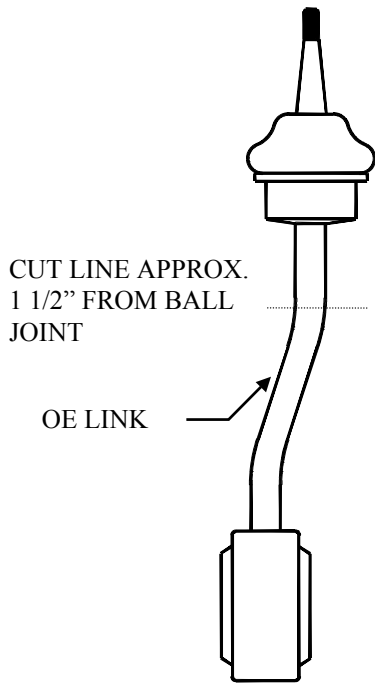
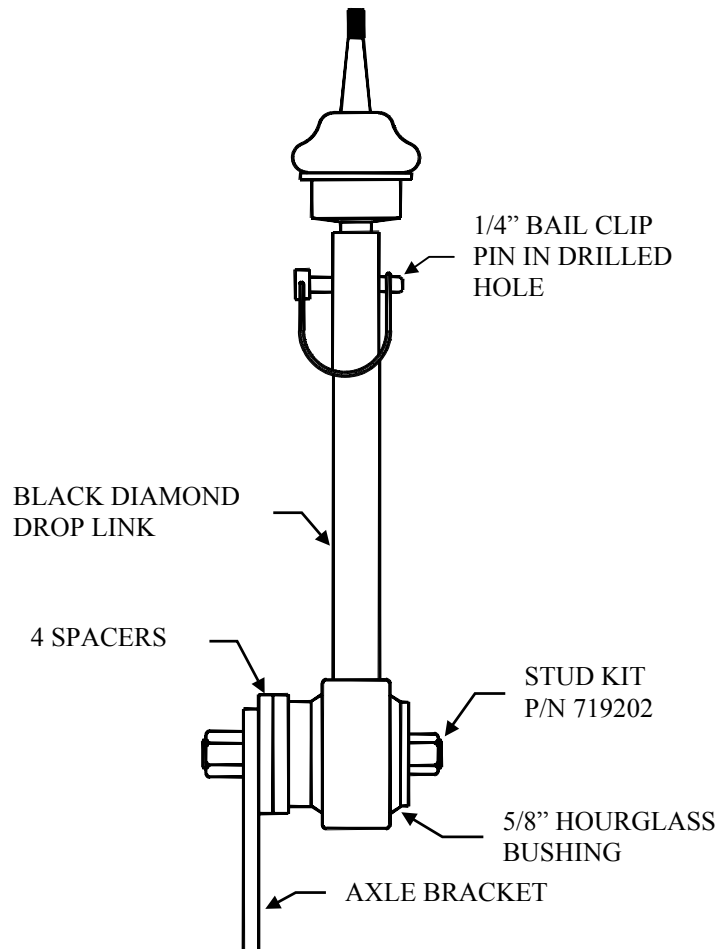

Figure 2.
Figure 3.
just before the bend as shown **Figure 2** using a Hack Saw or similar method. File the cut end to remove any burrs. Insert the ball joint into the end of the new Black Diamond drop link and match drill a 1/4" hole using the new Black Diamond drop link as a guide. **Figure 3**.
14. Assemble the new Black Diamond front Anti-Sway bar links, using the 5/8" bushing, and 1/4" bail clip pin. Drill out the Anti-Sway bar axle bracket to 1/2". Install the mounting stud as shown in **Figure 3**, using the 4 spacers between the bracket and the mounting stud. Attach the drop links.